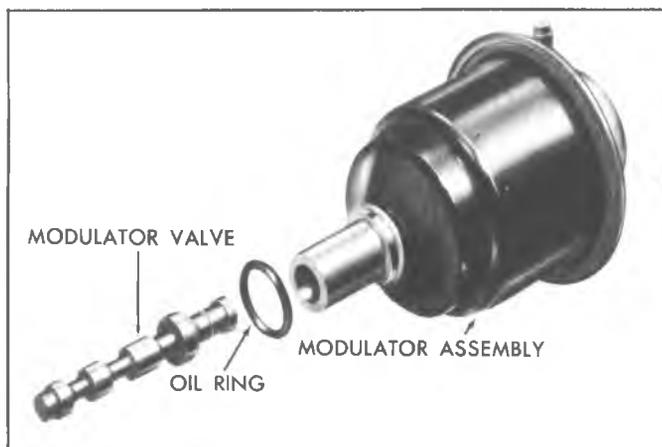

Fig. 7A-134C-Modulator Assembly and Valve
- b. Apply non-hardening sealer to outside of new oil seal, and install oil seal into case extension using tool (J-24057) (see Fig. 7A-171C).